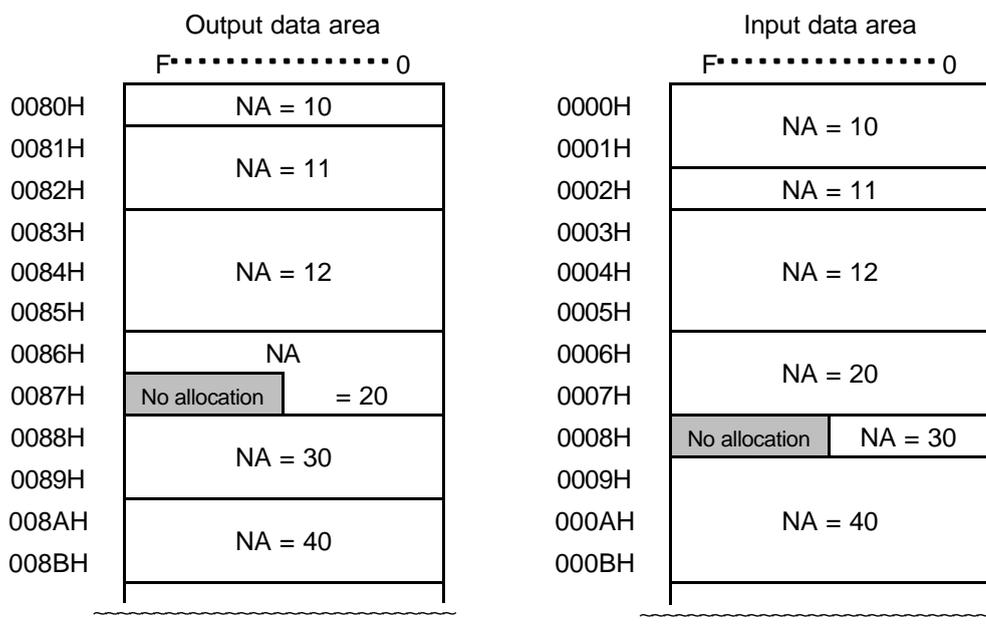

Figure 4.8 Input/Output Data Area in Slave Device Configuration (sample)
Reception/transmission data of slave devices will be allocated to the input/output data area in the order from smaller to larger node addresses. For example, in Table 4.11, Slave Device Configuration, the input data area/output data area is allocated to the top and the subsequent addresses without skipping, as shown in Figure 4.8. Allocation will be executed when run mode (transmission state enabled) is set by an operation mode control request after setting slave device parameters.
2.	When you add a new slave device, enter a new value larger than the node addresses of the present slave devices. For Figure 4.8, enter a value larger than "41" for the node address of a new slave. If the node address of a new slave device is set to "18", allocating data area of node addresses 20/30/40 will be shifted.